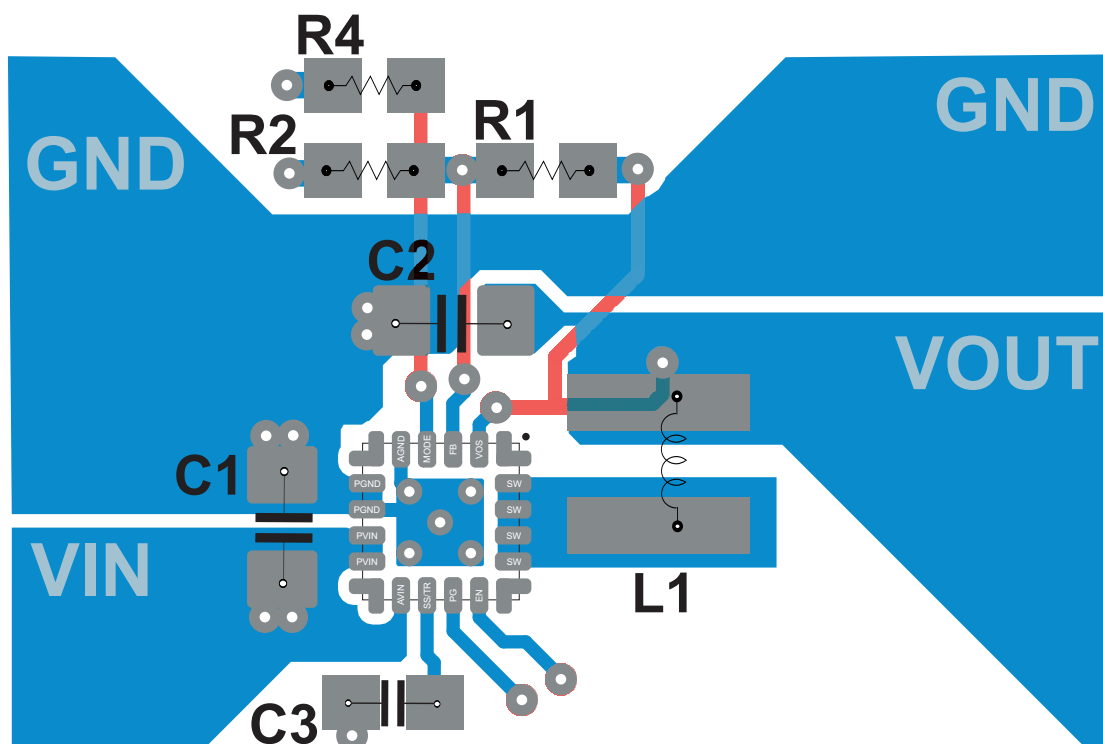

图 25. TPS62097-Q1 PCB Layout
- Refer to 图 25 for an example of component placement, routing and thermal design.